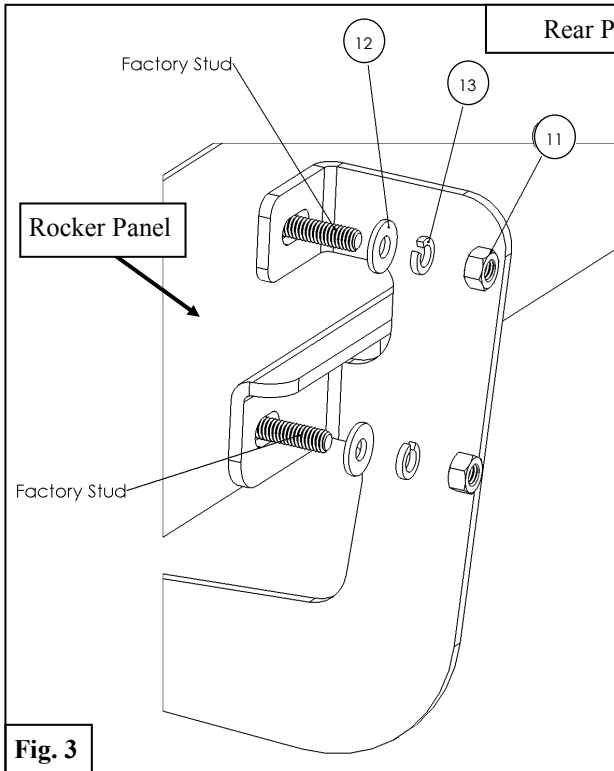

Fig. 3
- At the rear mounting location, loosely install Rear Mounting Bracket (6) with preassembled Universal Bracket (5) using the supplied M8 hardware. See **Figures 3 & 4**.